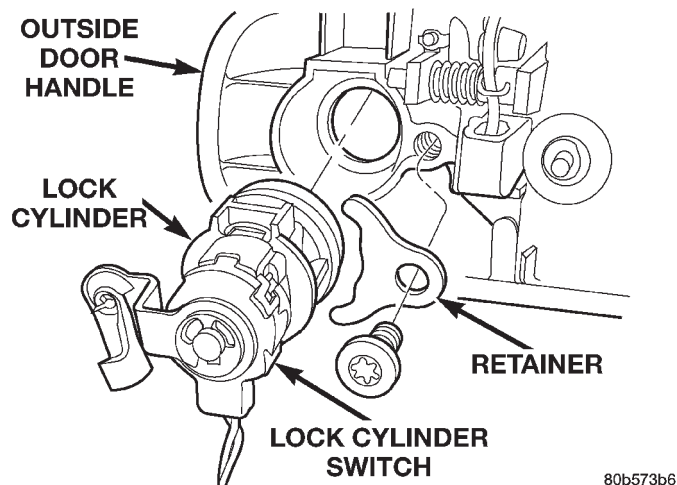

Fig. 61 D-Pillar Trim
- (1) Remove liftgate opening upper trim panel.
- (2) Grasp D-pillar trim and pull outward from D-pillar (Fig. 61).
- (3) Separate D-pillar trim from D-pillar.